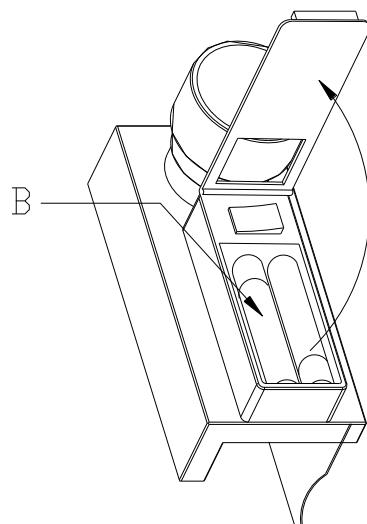

Figure 2
- To reach the batteries room open the lid (**see Fig. 2**).